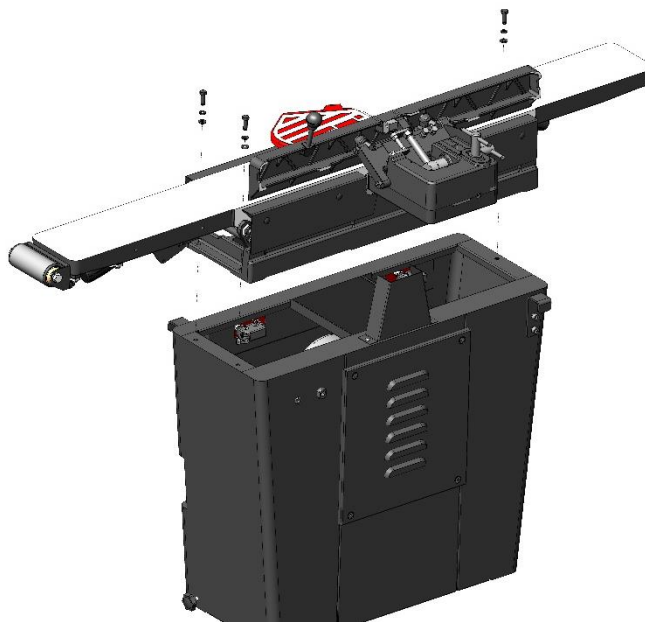

FIGURE 11: Attaching Jointer Body to Stand
2. Insert three bolts, with lock washer and flat washer into each hold of jointer Body (Fig. 11). Thread each bolt into the mating nut (factory secured) of the stand. Hand tighten all three bolts while aligning jointer body and pulley on stand.